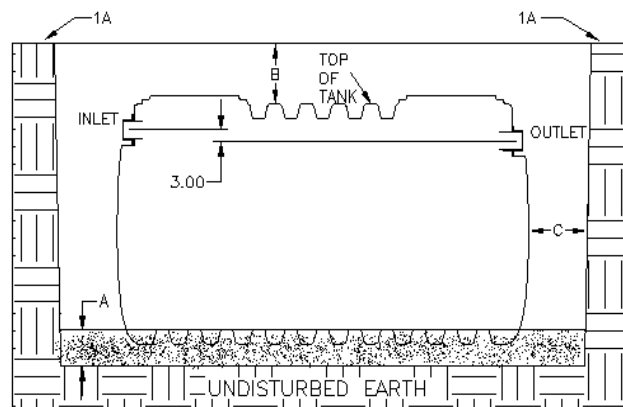

Figure 1: Excavation
1. Excavation (Figure 1)
- c. Excavate and provide a well-compacted support layer of sand / gravel mixture so that dim. (A) is min. of 6" for soil terrain and 12" for rock terrain.
- d. Allow dim. (B) to be a min. of 8" and a max. of 36".
- e. Allow dim. (C) to be a min. of 18" and a max. of 24".